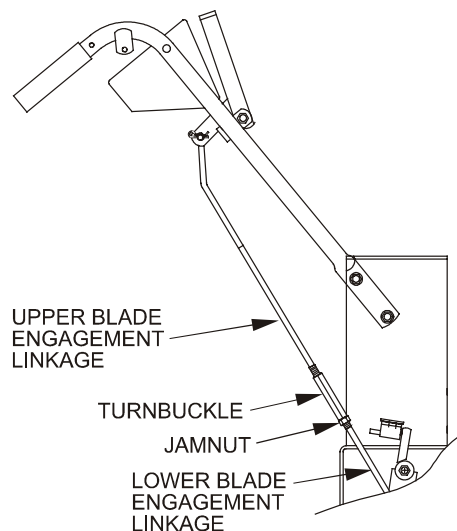

FIGURE 3
3.10 Connect the blade engagement linkages (See Fig. 3). Loosen jam nut and remove turnbuckle from lower linkage. Screw turnbuckle onto both upper and lower linkages simultaneously. Note that threads on upper linkage are left hand. See 5.2.2 for linkage adjustment.